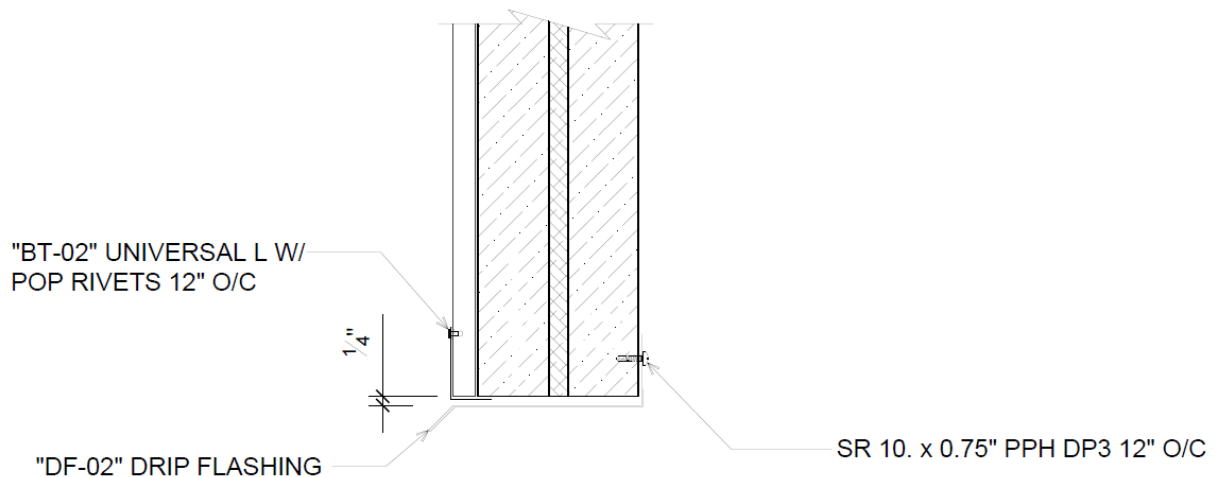

Figure 2A – Framed Opening Header
2. **OPENING:** Fasten steel drip flashing and trim around the perimeter for the opening using pop rivets every 12 in. oc. See Figures 2A, 2B, and 2C for details.